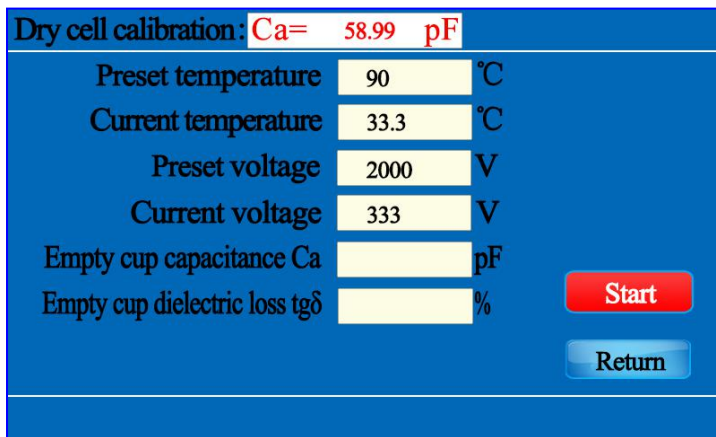

Fig.7
① Since the temperature has no significant effect on the capacitance and dielectric loss factor of the air-filled electrode cup, a lower test temperature can be set. It is recommended to set the temperature to 10°C above room temperature. Tap the [Return] button to return to the main menu.
② Calibration result----After the empty cup calibration measurement is completed, the calibration result is displayed in the screen of Fig. 7. At this time, tap the [Save] button to save the calibration result, and tap the [Return] button to return to the main menu.